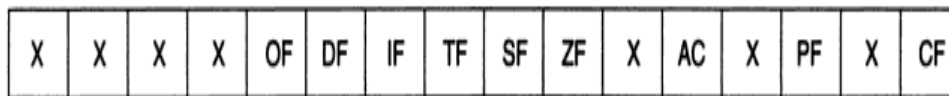

Figure 3.3: 8086 Flag Register
- (iv) **Flag Register:** Flag register is a 16 bit register having 16 flip flops. Flag Register shows the condition or changes produced by the execution of an instruction and these flags get modified as and when mathematical or logical operations are performed. 8086 microprocessor uses only 9 flip-flops, so there are only nine flags in 8086 microprocessor. Figure 3.3 shows the diagram of a flag register.